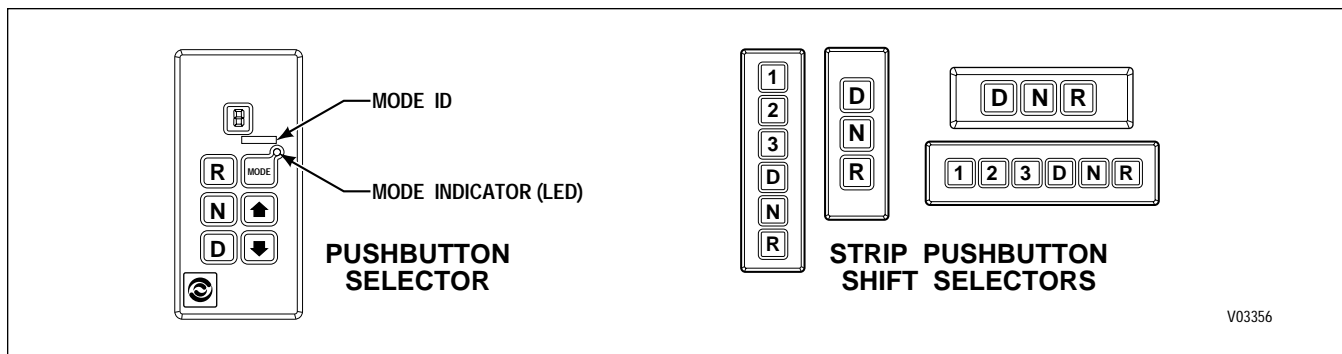

Figure 1-4. Pushbutton Shift Selectors
#### A. Pushbutton Shift Selector (Figure 1-4)
There is a full-function pushbutton shift selector and a strip pushbutton shift selector. Strip pushbutton shift selectors are used by European OEMs. A full-function shift selector has a **MODE** button and diagnostic display capability through the single digit LED display. The strip pushbutton shift selector does not have a **MODE** button, diagnostic capability, or adjustable illumination. The full-function pushbutton shift selector has six (6) pushbuttons which are **R** (Reverse), **N** (Neutral), **D** (Drive), ↓ (Down), ↑ (Up), and **MODE**. Manual forward range downshifts and upshifts are made by pressing the ↓ (Down) or ↑ (Up) arrow buttons after selecting **D** (Drive). The **N** (Neutral) button has a raised lip to aid in finding it by touch. The **MODE** button is pressed to select a secondary or special operating condition, such as **ECONOMY** shift schedule. Diagnostic information is obtained by pressing the ↑ (Up) and ↓ (Down) arrow buttons at the same time. The strip pushbutton shift selector has either three or six range selection positions as shown in Figure 1-4. When a strip pushbutton shift selector is used, diagnostic information must be obtained by using the Pro-Link® 9000 or a customer-furnished remote display.